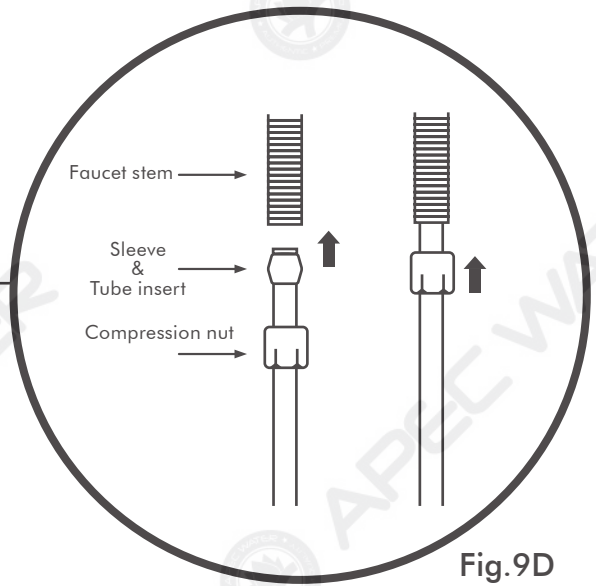

Fig.9D
3. Make sure the tubing is **inserted** inside the faucet stem at least 1/4" deep while screwing the compression nut **Fig. 9D (Page 12)**.